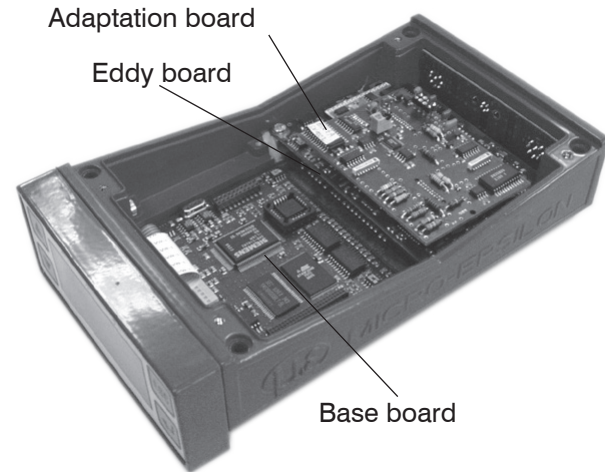

Fig. 26 Interior view of the eddyNCDT330x single-channel displacement measurement system with adaptation board, Eddy board and Base board
- Open the controller, see Fig. 26.